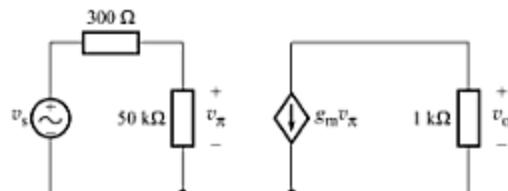

Fig. A-116
- A-83. In the circuit of Fig. A-116, if $g_m = 25 \times 10^{-3}$ S and $v_s = 10 \cos 5t$ mV, find $v_o(t)$.